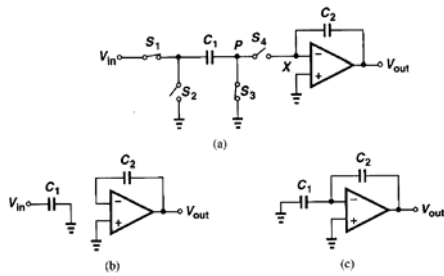

Figure 12.56 (a) Parasitic-insensitive integrator, (b) circuit of (a) in sampling mode, (c) circuit of (a) in integration mode.
- In the transition to the integration mode  $S_3$  turns off first, injecting a constant charge onto  $C_1$ .  $S_1$  turns off next, and subsequently  $S_2$  and  $S_4$  turns on (Fig. 12.56 c)). The charge stored on  $C_1$  is transferred to  $C_2$  via the virtual ground node. Since  $S_3$  turns off first, it introduces only a constant offset, which can be suppressed by differential operation.